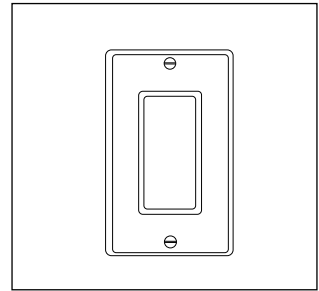

Figure 1
### 1. Wall switch light memory: (Figure 1)
- Low-profile use (Figure 1):
- **IMPORTANT:** Using a full range dimmer switch to control fan speed will damage the fan. To reduce the risk of fire or electrical shock, do not use a full range dimmer switch to control the fan speed. (Figure 1).